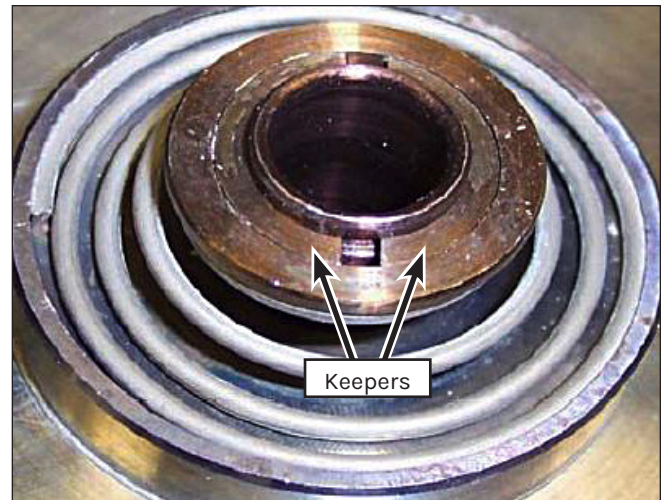

Figure 125: Installing the Keepers.
2. Position the valve spring and valve spring retainer into place on the suction valve. Press down on the spring retainer to insert the keepers (Figure 125).